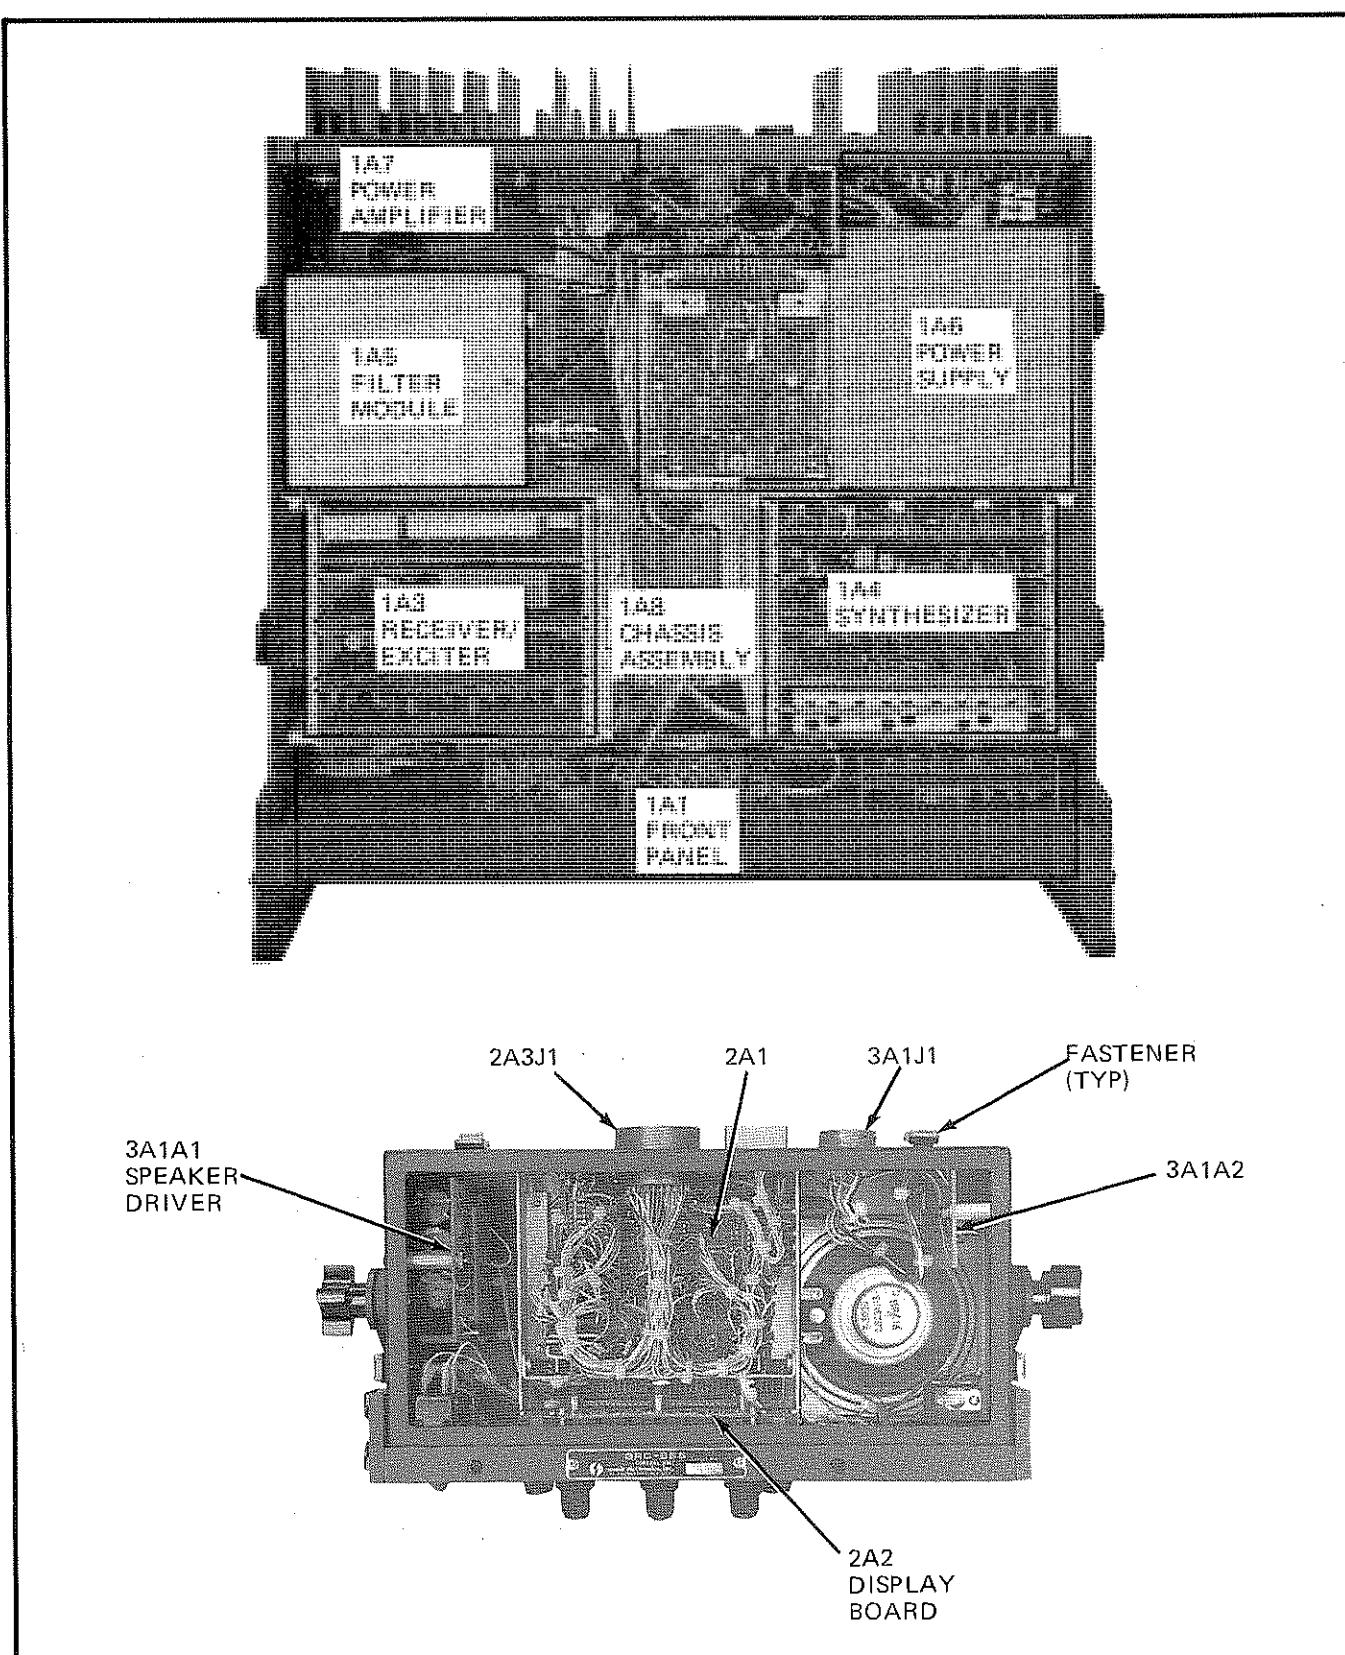

Figure 1.1 GSB-900R and Remote Control Major Assembly Locations
The GSB-900R is composed of six major subassemblies, (1) front panel 1A1, (2) receiver/exciter 1A3, (3) synthesizer 1A4, (4) filter module 1A5, (5) power supply 1A6, (6) power amplifier 1A7. See Figure 1.1 for major assembly location.